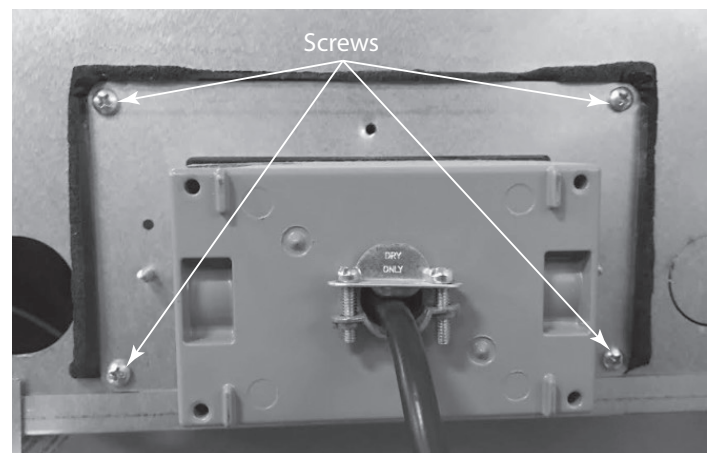

Figure 5.1. Access Panel Removal
- Remove (4) screws securing junction box access panel and gasket to appliance, pull junction box away from unit. See Figure 5.1.